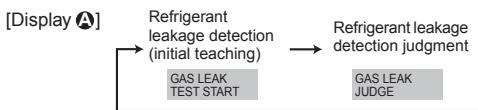

Fig. 8-2
- ① Press **[TEST]** button for more than three seconds to switch to the maintenance mode.
- ② Press **[DISPLAY]** button to enter the [MAINTENANCE] mode.
- ③ Press **[CLOCK]** button and select the [GAS LEAK TEST START] (Fig. 8-2)